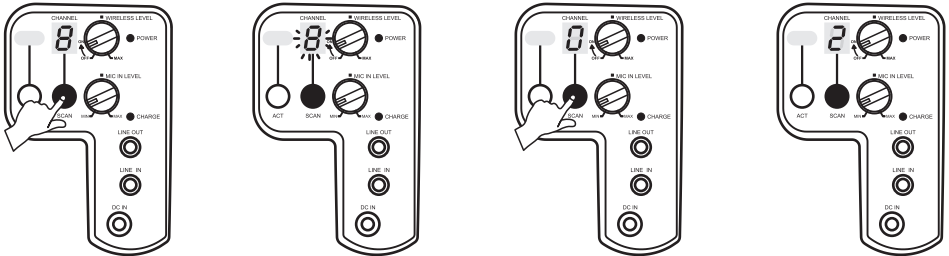

Fig. 2
(A) Automatic Channel Scan Selection: Press and hold the Channel SCAN button for 1 second to access the SCAN function. Channel indicator blinks and displays current channel. During channel blinking, press and release Channel SCAN button to scan for the best available channel. Once blinking stops, the new channel is saved automatically. See Fig. 2.
- (1) Press & hold SCAN for 1 second (2) Current channel displays and blinks (3) Press & release SCAN to scan for a clear channel (4) New channel is saved